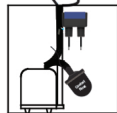

FIGURE 2
4. Connect the Water Sensor Probe to the ALARM. CAUTION! - Red wire must be connected to the "C" terminal and the Black wire must be connected to terminal 2. See Figure 2. Note: If a float switch is added use "C" and "1"